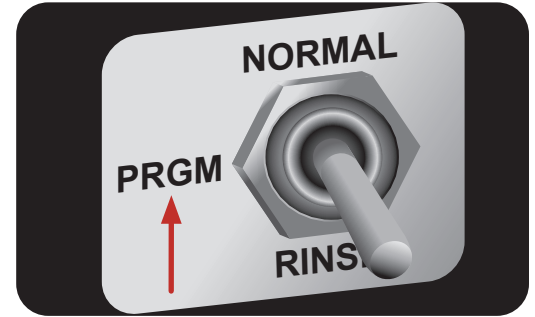

Figure 1
### Style: Adjustment Knob (Figure 1)
1. Open the door and place the NORMAL/PROGRAM/RINSE switch in the PROGRAM position. (Figure 1)